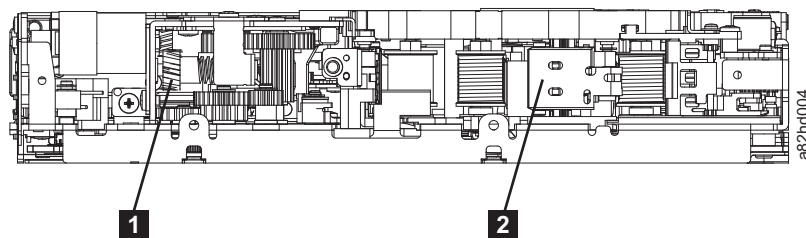

Figure 43. Leader block assembly (LBA)
- Rotate the loader intermediate gear (**1** in Figure 43) clockwise as viewed from the front of the drive until it stops. This action releases the LBA leader pin.
- Rotate the threader motor worm gear (**3** in Figure 43) counterclockwise until the leader block is in front of the read/write head. This action moves the LBA out of the cartridge.
- Rotate the loader motor worm gear (**3** in Figure 43) counterclockwise as viewed from the front of the drive until it stops.